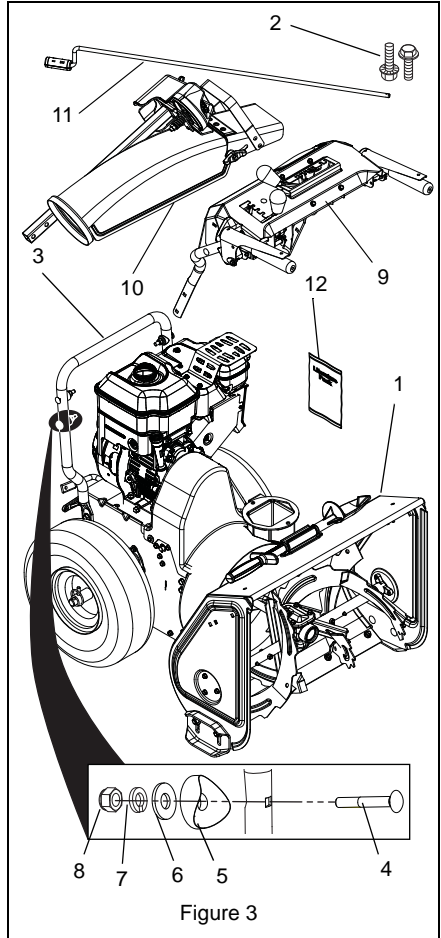

Figure 3
Check the contents of your package for the parts listed below (Figure 3):
3. Secure lower handlebar to unit using two 3/8" x 3/4" hex head serrated flange bolts (Figure 3, Item 2).